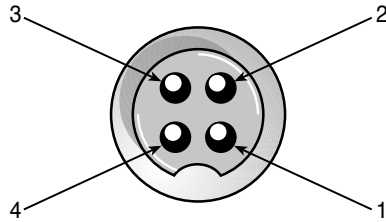

Fig.4 Microphone plug pin numbers viewed from rear of pin receptacle.
5. The wires must now be soldered to the pins as indicated in the above wiring tables. If a vise or clamping tool is available it should be used to hold the pin receptacle body during the soldering operation, so that both hands are free to perform the soldering. If a vise or clamping tool is not available, the pin receptacle body can be held in a stationary position by inserting it into the microphone jack of the front panel. The numbers of the pins of the microphone plug are shown in Fig.4 as viewed from the back of the plug. Before soldering the wire to the pins, pre-tin the wire receptacle of each pin of the plug.